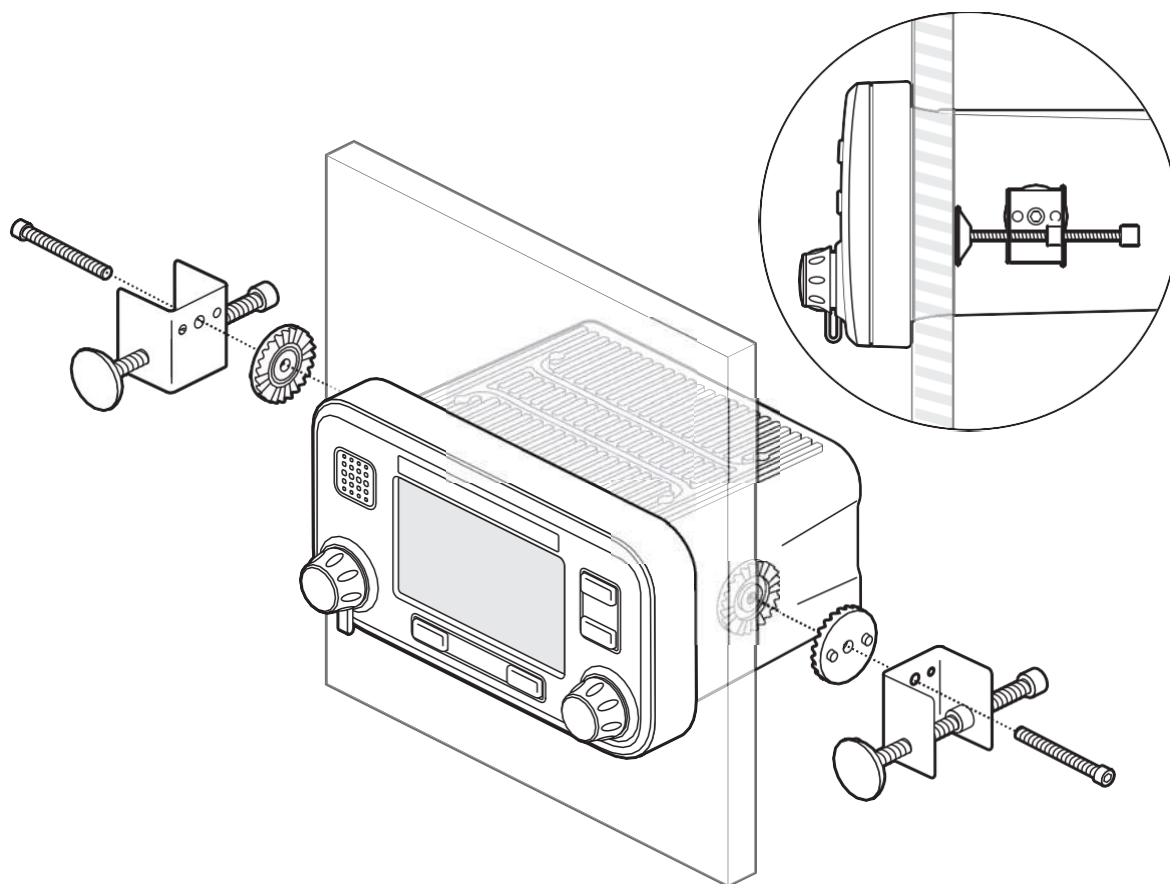

Figure 34 Panel mounting the AIS transceiver
- The transceiver is supplied with panel mount clamps for flush mounting through an instrument panel. Please refer to Figure 34 for guidance. Access behind the panel is required when using this mounting option.